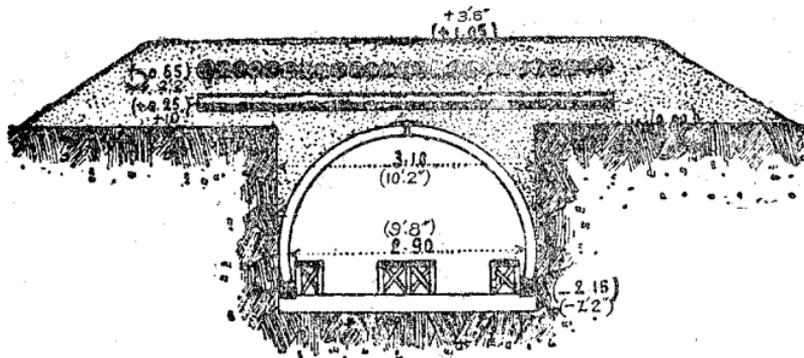

FIG. 252.—Shelter with arched steel plates.
These consist of: (1) Curved sheets of iron, with which shelters like that shown in figure 252 may be constructed in rear